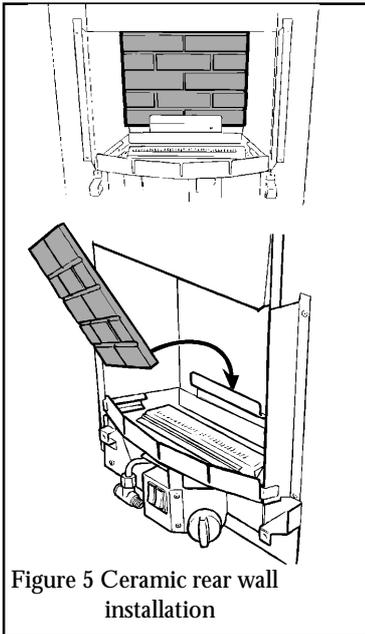

Figure 5 Ceramic rear wall installation
**1** With its feather edge at the top, place the ceramic rear wall into the channel at the back of the fire box.. Push the wall flat against the rear of the fire box. (See figure 5) .